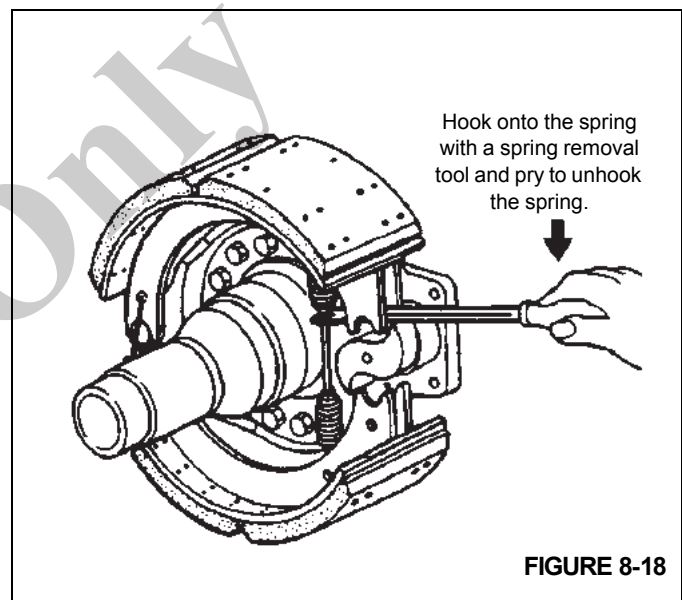

FIGURE 8-18
10. If springs are connected by spring post (horse collar), push cam end of upper shoe toward the cam. Otherwise push cam end of both shoes toward cam. With a spring removal tool, hook onto the spring and pry to unhook the upper shoe return spring (see Figure 8-18). Remove the spring and discard.